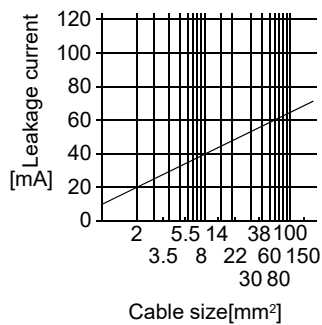

Fig. 11.1 Leakage current example (Ig1, Ig2) for CV cable run in metal conduit
- Ig1: Leakage current on the electric channel from the earth-leakage current breaker to the input terminals of the servo amplifier (Found from Fig. 11.1.)
- Ig2: Leakage current on the electric channel from the output terminals of the servo amplifier to the servo motor (Found from Fig. 11.1.)